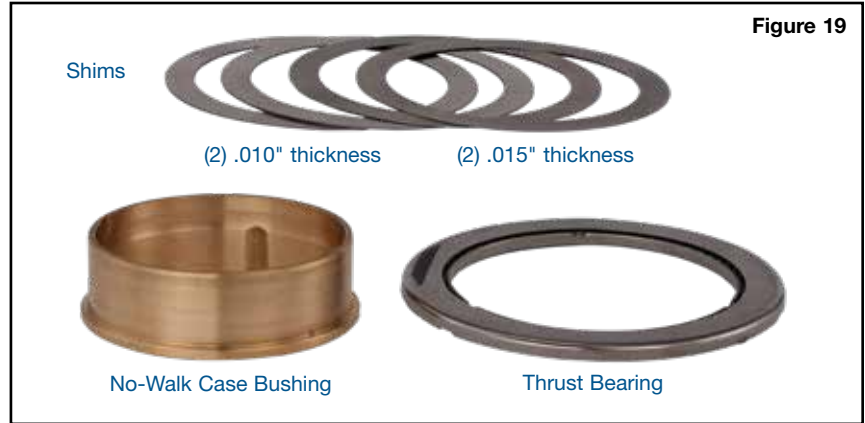

Figure 19
10. Heavy Duty Case Bushing Kit with Bearing Installation (Figure 19)